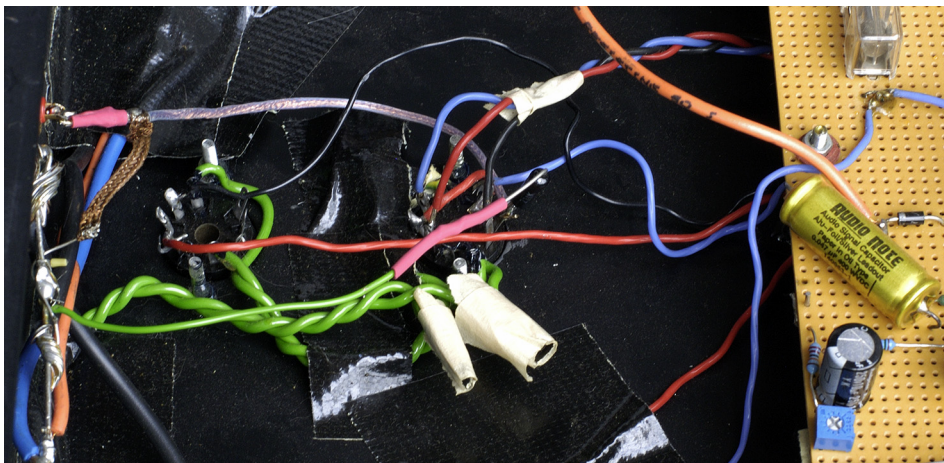

Figure 3.44
5. At valve impedances, practical inductances are utterly insignificant except in the 0 V bus-bar and power supply decoupling capacitors, so good layout in a valve amplifier minimises stray capacitances, and the best way of reducing capacitance between wires or components is to cross them at right angles. Capacitance to earth is minimised by short leads. One approach that is not immediately obvious is that sleeved wires have higher stray capacitance than self-supporting bare wires because $\epsilon_r \geq 1$. It is the combination of these requirements that forces component layouts that appear to have been thrown together by an avant-garde sculptor. We thus arrive at the surprising conclusion that a good component layout probably looks untidy, but the converse is unlikely to be true. See Figure 3.44.